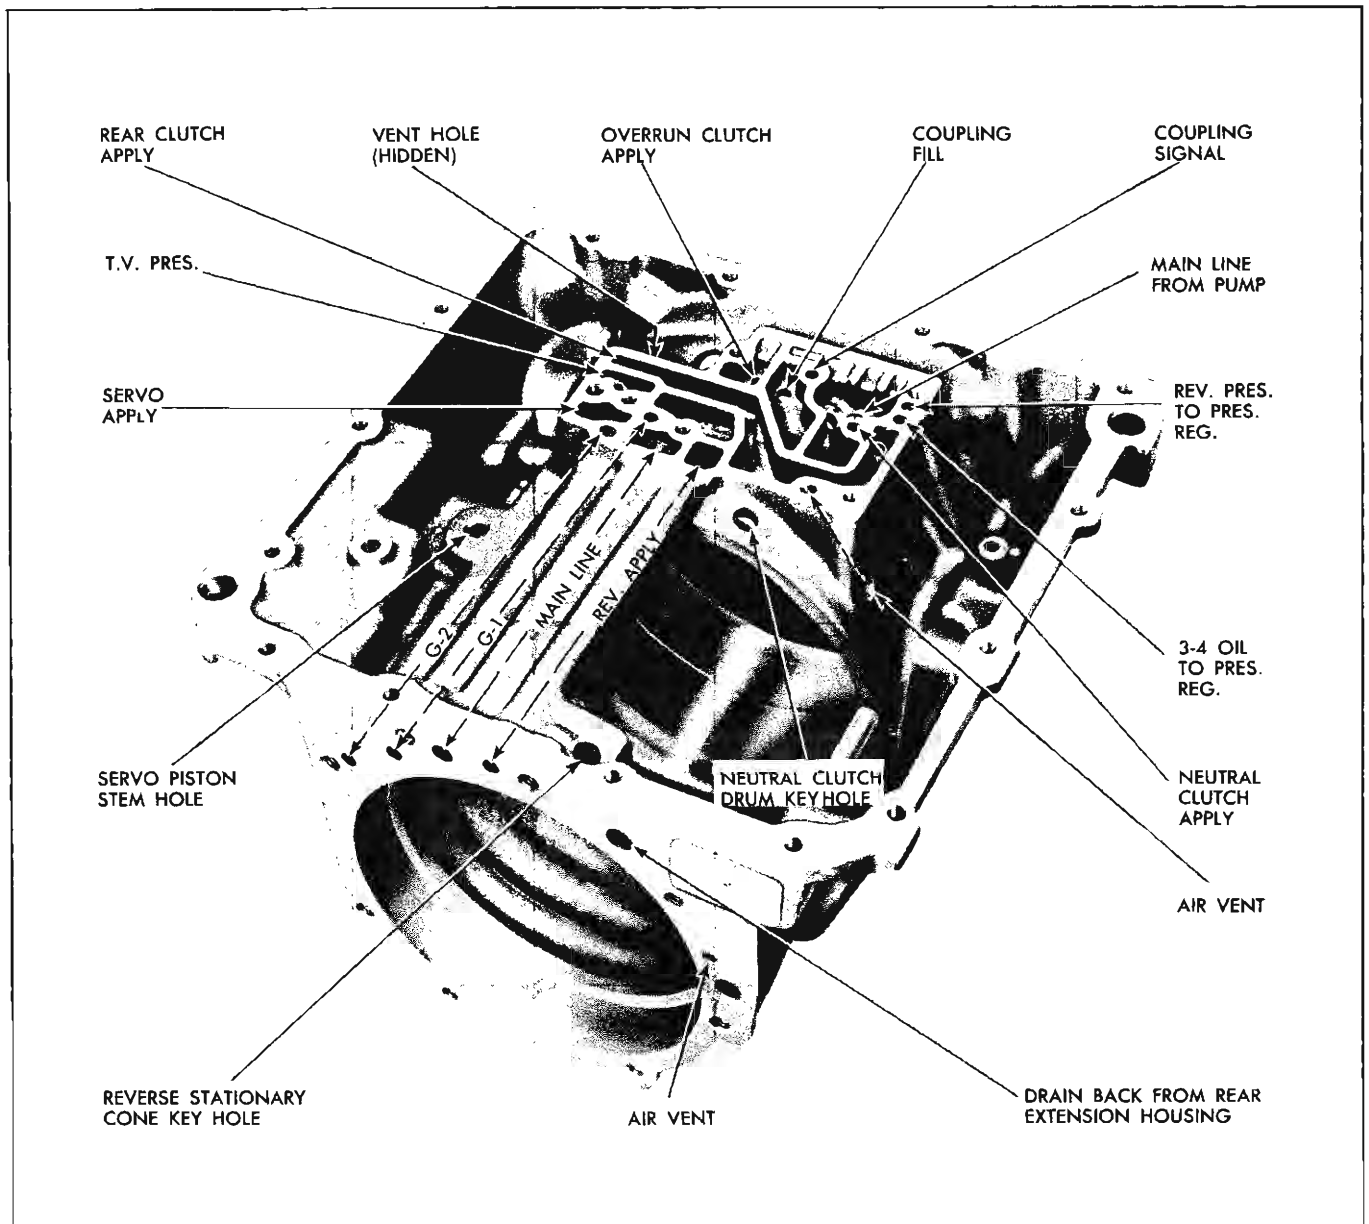

Fig. 7D-68 Passages in Case
Remove detent spring attaching bolt and detent spring assembly (Fig. 7D-67).
1. After the case has been thoroughly cleaned, blow out all passages in case (Fig. 7D-69) with compressed air using blow gun J-8124-01.